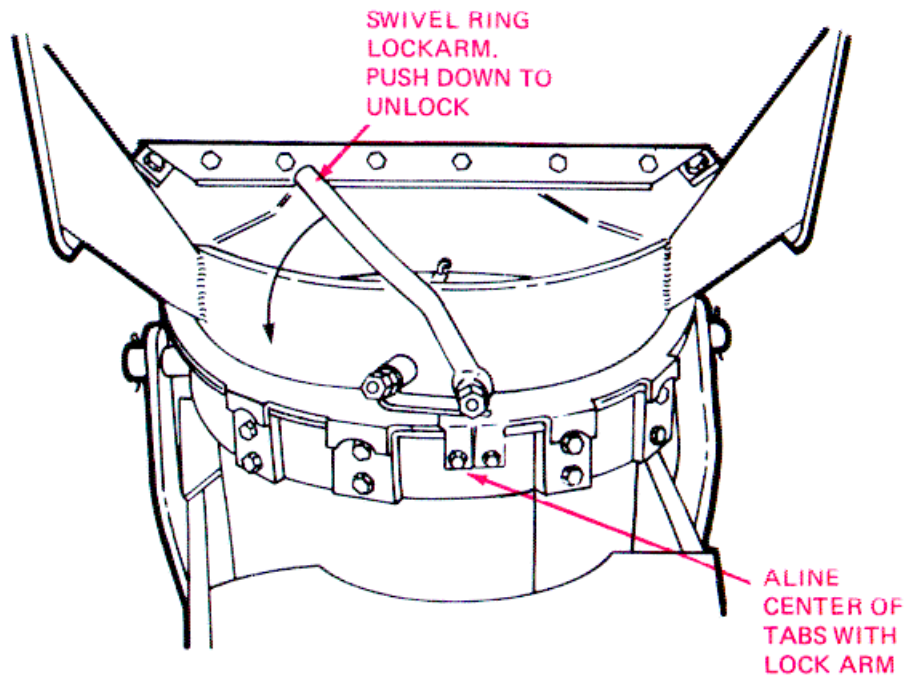

Figure 2-45. Swivel Ring Lock.
- h. Store the Mixing Trough in the Travel Position. (See fig. 2-45 and 2-46).
The center of the two short tabs should align with the lock arm (fig. 2-45).